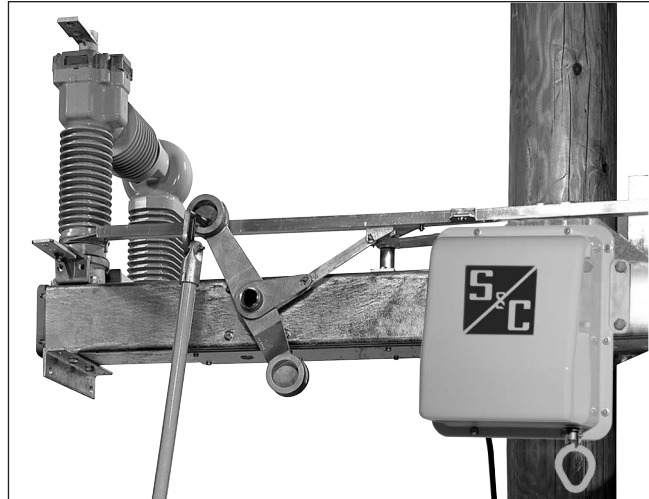

Figure 20. Pull down on the disconnect operating lever with the hookstick
**STEP 5.** To close the disconnect: pull down on the disconnect operating lever with a hookstick. See Figure 20. Closing the disconnect does not close the interrupter contacts. The switch must be closed electrically or by hookstick to close the interrupter contacts.